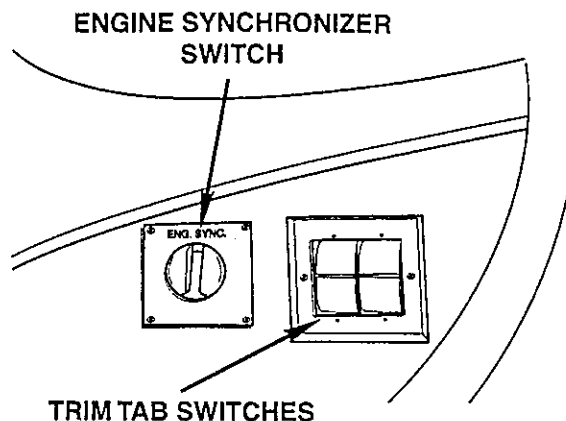

Figure 3-16 Engine Synchronizer And Trim Tab Switches
19. See Figure 3-16. On Volvo Penta engines, check the operation of the engine synchronizer by setting both engines slightly above 800 RPM. Turn the ENGINE SYNC switch to on. With the NAV/ANCHOR light switch on, the indicator in the top of the switch will light. Both engine controls must be used and the engines must be within 100 RPM for the automatic synchronizer system to take over.
20. See Figure 3-16. With the boat moving, check the operation of the trim tabs. Make sure they operate properly.